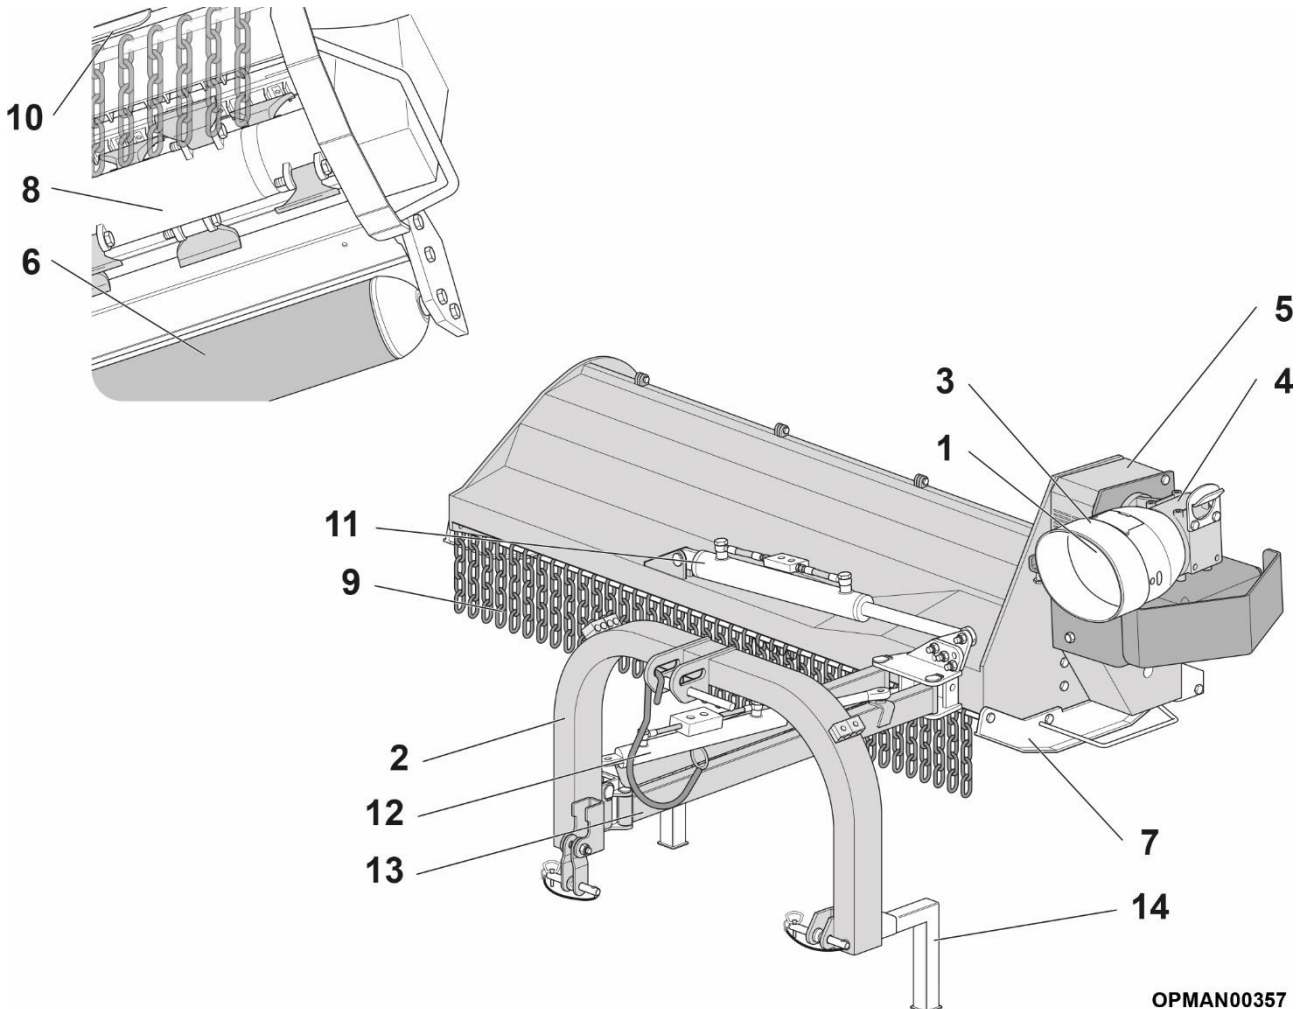

Figure 1
Referring to Figure 1, the Mower is a machine designed and built to perform cleaning tasks from twigs and weeds of embankments, roadsides, scarps or, simply, vineyards and orchards. It can be used both central and offset, offers a work angle of +90 to -55 with variable offset displacement depending on the model used. It must not be used for other purposes or with other materials.
The Mower (Figure 1) basically consists of a closed steel cowl structure in which a rotor shaft with flails is installed (8) and, on the rear side, a rear roller (6) to compact the terrain following the mowing phase. In the front part of the Mower there are two parallel arms (13) with a joint on both the machine side and on the part of the frame with three-point connection, for fastening to the tractor, whose purpose is to support the machine during work and transfer phases. A hydraulic ram (12) attached to parallel linkage arms allow the horizontal movement positioning during operation. A second hydraulic ram (11) lets you angle the Mower to fit the slope of the embankment to work, or you can put it in a vertical position for road transfer. Control for the rams is obtained from the hydraulic cab controls on the tractor by connecting the hydraulic hoses to the ports on the actual tractor. The upper part of the machine is protected by a metal cowl hood that can be opened (10) to allow the inspection of the rotor shaft and the flails, which must be carried out with the machine stopped disconnected from the tractor. The lower part is protected by a number of chain links (9) which prevent the soil and/or fragments of plants from being projected outwards. The Mower is powered by the supporting agricultural tractor engine by connecting the gearbox (4) to the PTO of the tractor itself with the input PTO shaft. The gearbox allows a pre-set number of revolutions to be reached for the rotor shaft to rotate via a pulley and belt lateral transmission system (5).